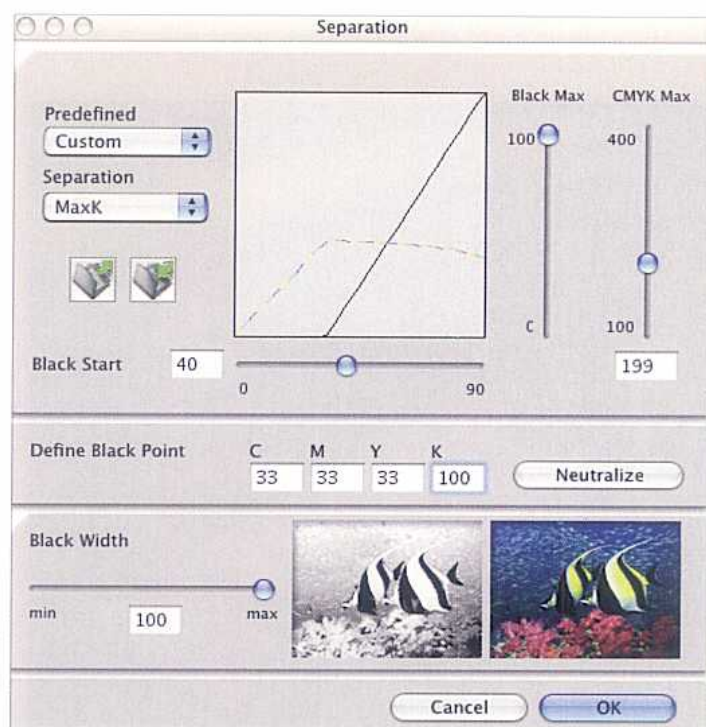

Figure 6
- 1) Set GCR to maximum and reduce total ink coverage to minimum (see **Figure 6**). This replaces the most color with black and produces a stable profile that is more likely to be color cast-free.